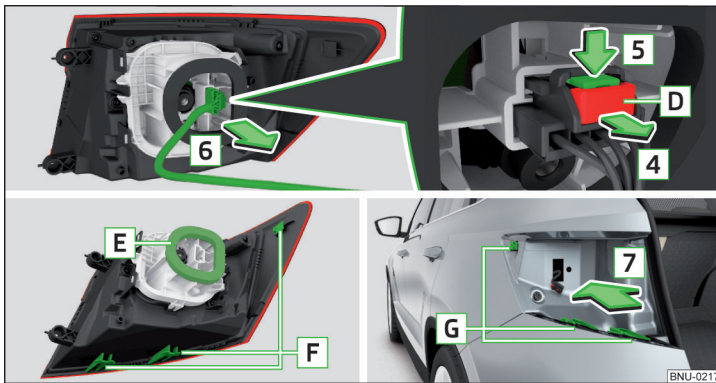

Fig. 353 Removing the plug / installing the light
- Press the latch **D** on the holder in the direction of the arrow **4** » Fig. 353.
- Slide the plug in the opposite direction of the arrow **6** » Fig. 353 into the light.
- Ensure that when re-inserting the light the wiring harness between the body and the light is not jammed and the seal **E** » Fig. 353 is correctly inserted - Otherwise there is a risk of water ingress and damage to the electrical installation.